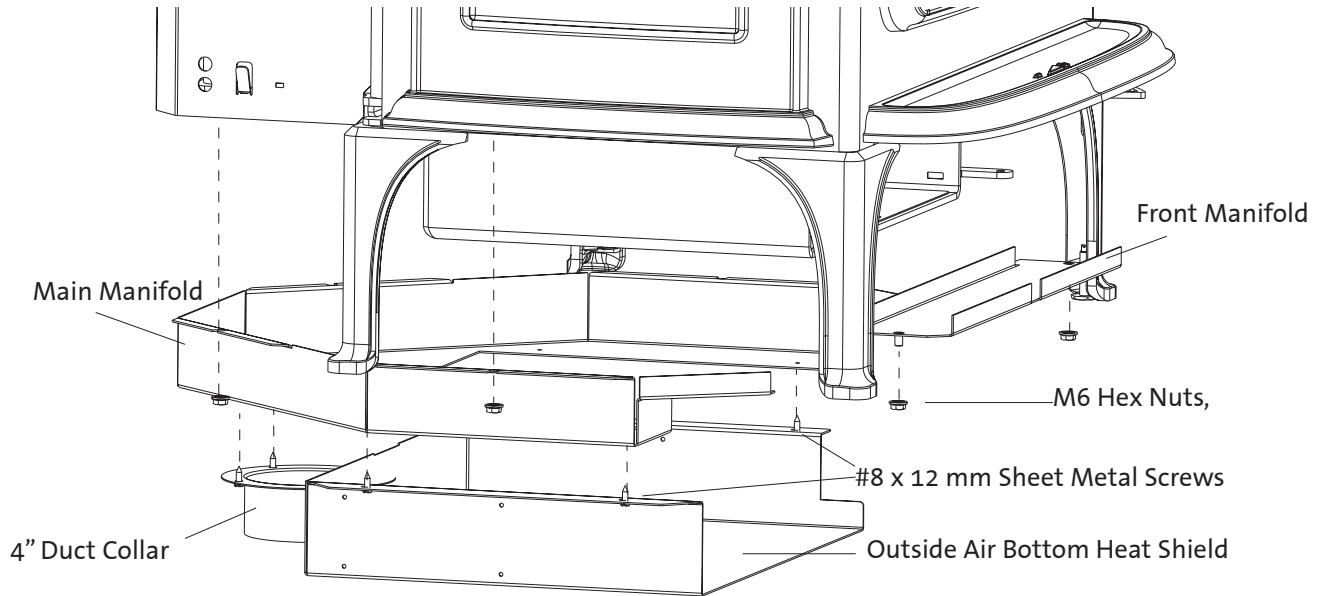

Figure 22. Outside Air Kit parts identification and orientation.
2. Orient the Front Manifold Panel as shown in figs. 22 and 23. Set it in place above the ash housing between the front legs of the stove.